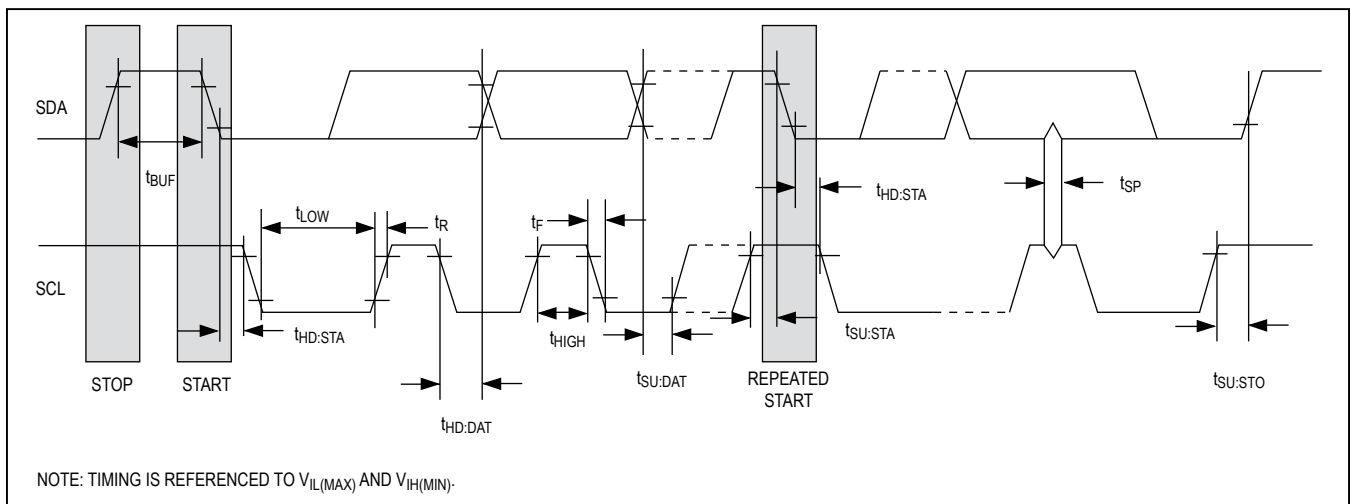

Figure 1. I2C Timing Diagram
**START Condition:** A START condition is generated by the master to initiate a new data transfer with a slave. Transitioning SDA from high to low while SCL remains high generates a START condition. See Figure 1 for applicable timing.
**STOP Condition:** A STOP condition is generated by the master to end a data transfer with a slave. Transitioning SDA from low to high while SCL remains high generates a STOP condition. See Figure 1 for applicable timing.
**Repeated START Condition:** The master can use a repeated START condition at the end of one data transfer to indicate that it will immediately initiate a new data transfer following the current one. Repeated STARTs are commonly used during read operations to identify a specific memory address to begin a data transfer. A repeated START condition is issued identically to a normal START condition. See Figure 1 for applicable timing.
**Bit Write:** Transitions of SDA must occur during the low state of SCL. The data on SDA must remain valid and unchanged during the entire high pulse of SCL, plus the setup and hold time requirements (Figure 1). Data is shifted into the device during the rising edge of the SCL.
**Bit Read:** At the end of a write operation, the master must release the SDA bus line for the proper amount of setup time (Figure 1) before the next rising edge of SCL during a bit read. The device shifts out each bit of data on SDA at the falling edge of the previous SCL pulse and the data bit is valid at the rising edge of the current SCL pulse. Remember that the master generates all SCL clock pulses, including when it is reading bits from the slave.